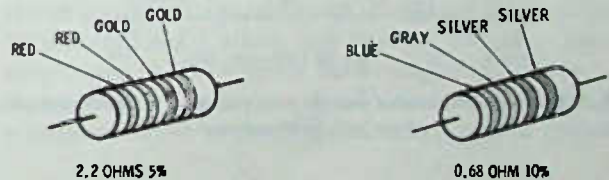

Fig. 2-13. Color code for resistors of less than 10 ohms.
What about a resistor of less than 10 ohms—say, a 4.7-ohm resistor—how would it be marked? The answer: yellow (4), violet (7), and the third band, gold, which indicates the moving of the decimal point one place to the left. A 0.39-ohm resistor would have color bands: orange-white-silver. In other words, if the third color band is silver, the decimal point is to be moved two places to the left or in front of the two significant digits. See Fig. 2-13.